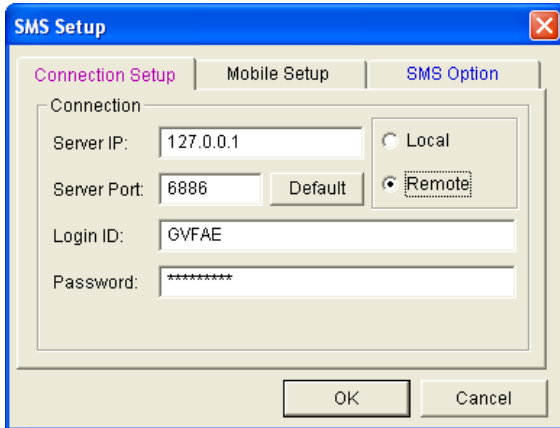

Figure 10-13
2. Type a login ID and a password. They will be the ID and password for the client to log in the SMS Server (Figure 10-13).
2. Click the **Account Setting** button. The SMS Setup dialog box appears. (Figure 10-13).